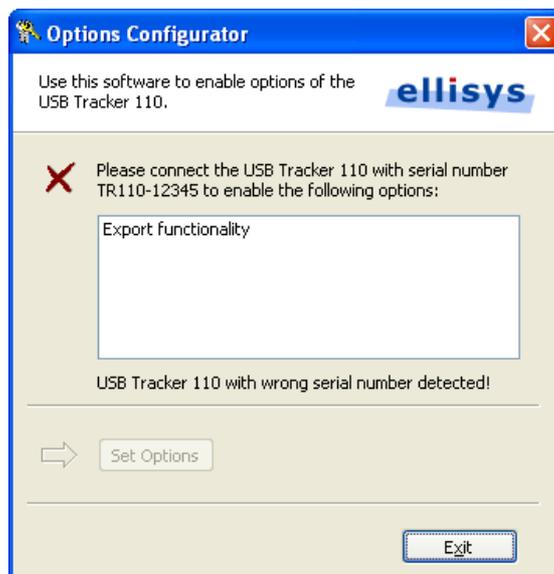

Figure 33 - Wrong serial number detected
- If you connect another USB analyzer, an error message will be displayed (see Figure 33). If you connected your analyzer and this message appeared, please contact your local distributor.